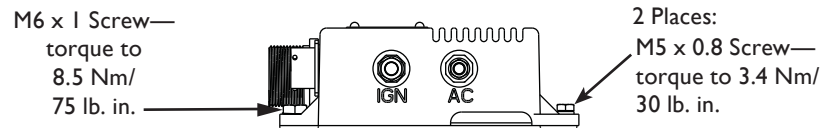

Figure 3 – N3240 Regulator Remote-mounted with **Metric Screws**
- **Metric** screws—see Figure 3.